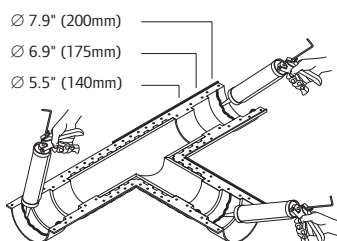

Figure 4-51: Apply Sealant
7. Apply sealant compound in the bottom of the insulation shell. **Figure 4-51** illustrates a Tee-connection.